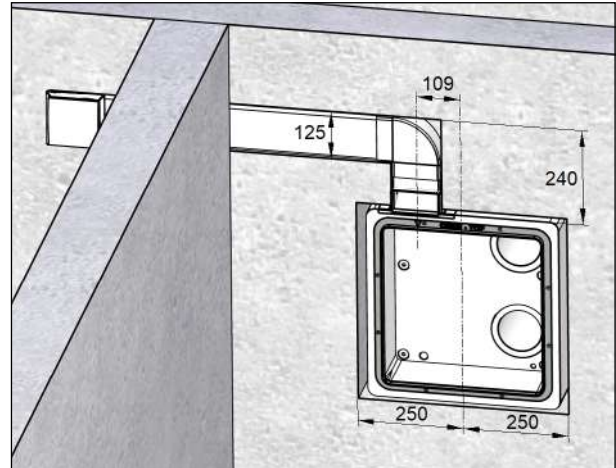

Fig. 13: Flat ductwork layout example, dimensions in millimetres
- ▶ Use the wall chaser to chase out channels for the rest of the flat ductwork as shown in your plans. Fig. 13 contains a sample layout for a flat duct. You will find other examples with two flat ducts in Fig. 39 and Fig. 40 on page 33.